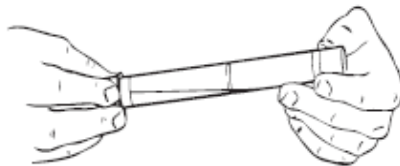

Figure 5: Rinsing the collector tube walls
11) For each collector tube, hold the tube horizontally and rinse its walls with the distillate in order to homogenize it. Slowly roll the distillate around in the tube to gather all droplets clinging to the tube walls into the bulk of the distillate (Figure 5). Then, slowly return the collector tube to an upright position so that the **D** end is up. Stubborn drops will often fall into the **M** end when the tube is flicked with your finger or shaken down like a thermometer in a whipping motion.